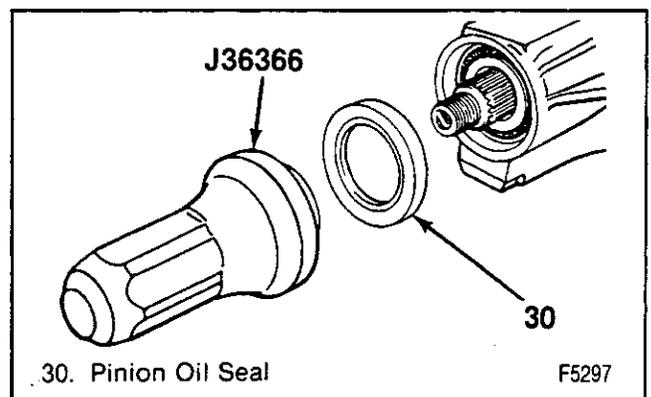

Figure 19—Installing the Pinion Seal
↔ Install or Connect (Figures 19 and 20)
- B. Position the oil seal in the bore. Then place J 22804-1 over the oil seal and flat against the seal flange (figure 19).